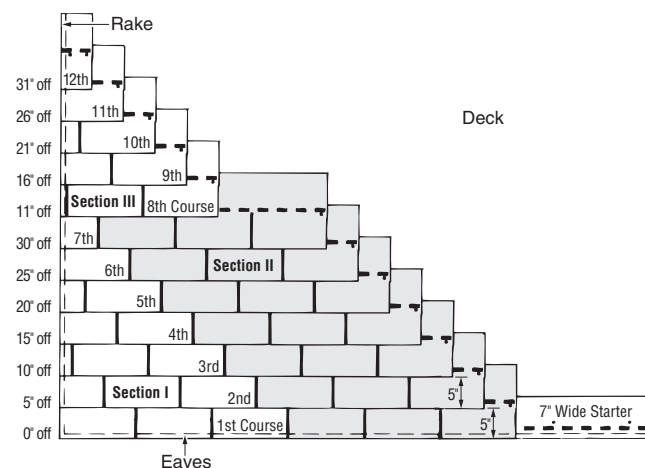

Figure 10-9: Five-Inch, Stepped-Off Diagonal Method.
1. Begin the second course by cutting 5" off the left end of a shingle and applying the 31" piece over the first-course shingle, flush with the left edge of the first-course shingle, and exposing the first course 5" (Figure 10-9).
3. Install "Section II" as shown in Figure 10-9 using full shingles against the seven courses in "Section I." This must be done before continuing with courses eight through 12 ("Section III"). These "Section II" shingles are to be butted-up against the "Section I" shingles that started courses one through seven. Fasten all shingles in the normal fashion.
1. Begin the eighth course by cutting 11" off the left end of a shingle and applying the 25" piece over the seventh-course shingle, flush with the left edge of the seventh-course shingle, and exposing the seventh course 5" (Figure 10-9).